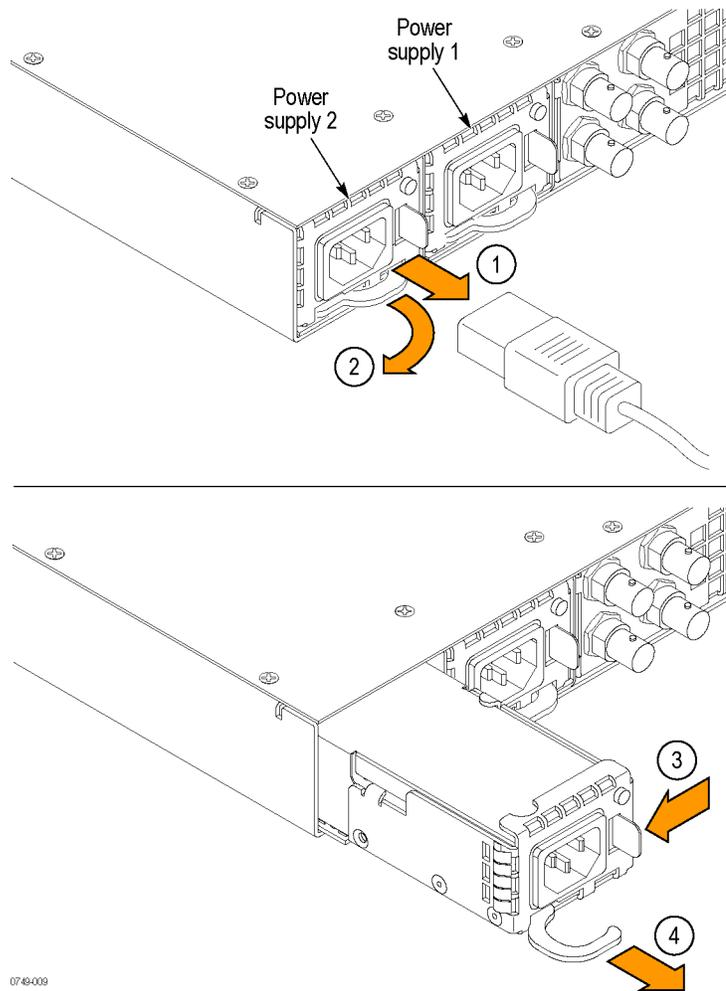

Figure 7: Removing a Power Supply module
CAUTION. *To prevent an unexpected shutdown of the instrument, be sure to disconnect the correct power cord if you are replacing a faulty Power Supply module. (See Figure 7.)*
2. Pull out the handle located at the bottom of the supply. (See Figure 7.)